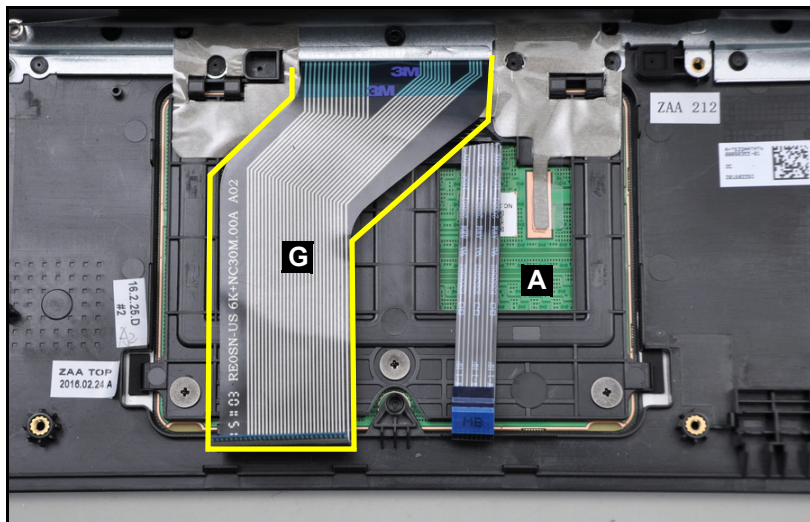

Figure 3-92. Replacing the Touchpad Module
5. Flip the keyboard FPC (G) over the touchpad module (A) (Figure 3-92).
6. Flip the keyboard mylar (H) over the touchpad module (Figure 3-92).